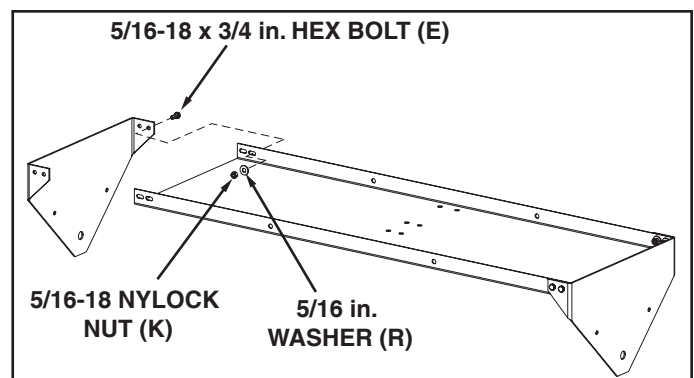

FIGURE 7
10. Loosely fasten both end plates to the tray using eight 5/16 x 3/4 in. hex bolts, eight 5/16 in. flat washers and eight 5/16-18 nylock hex nuts. **Do not tighten at this time.** See figure 7.